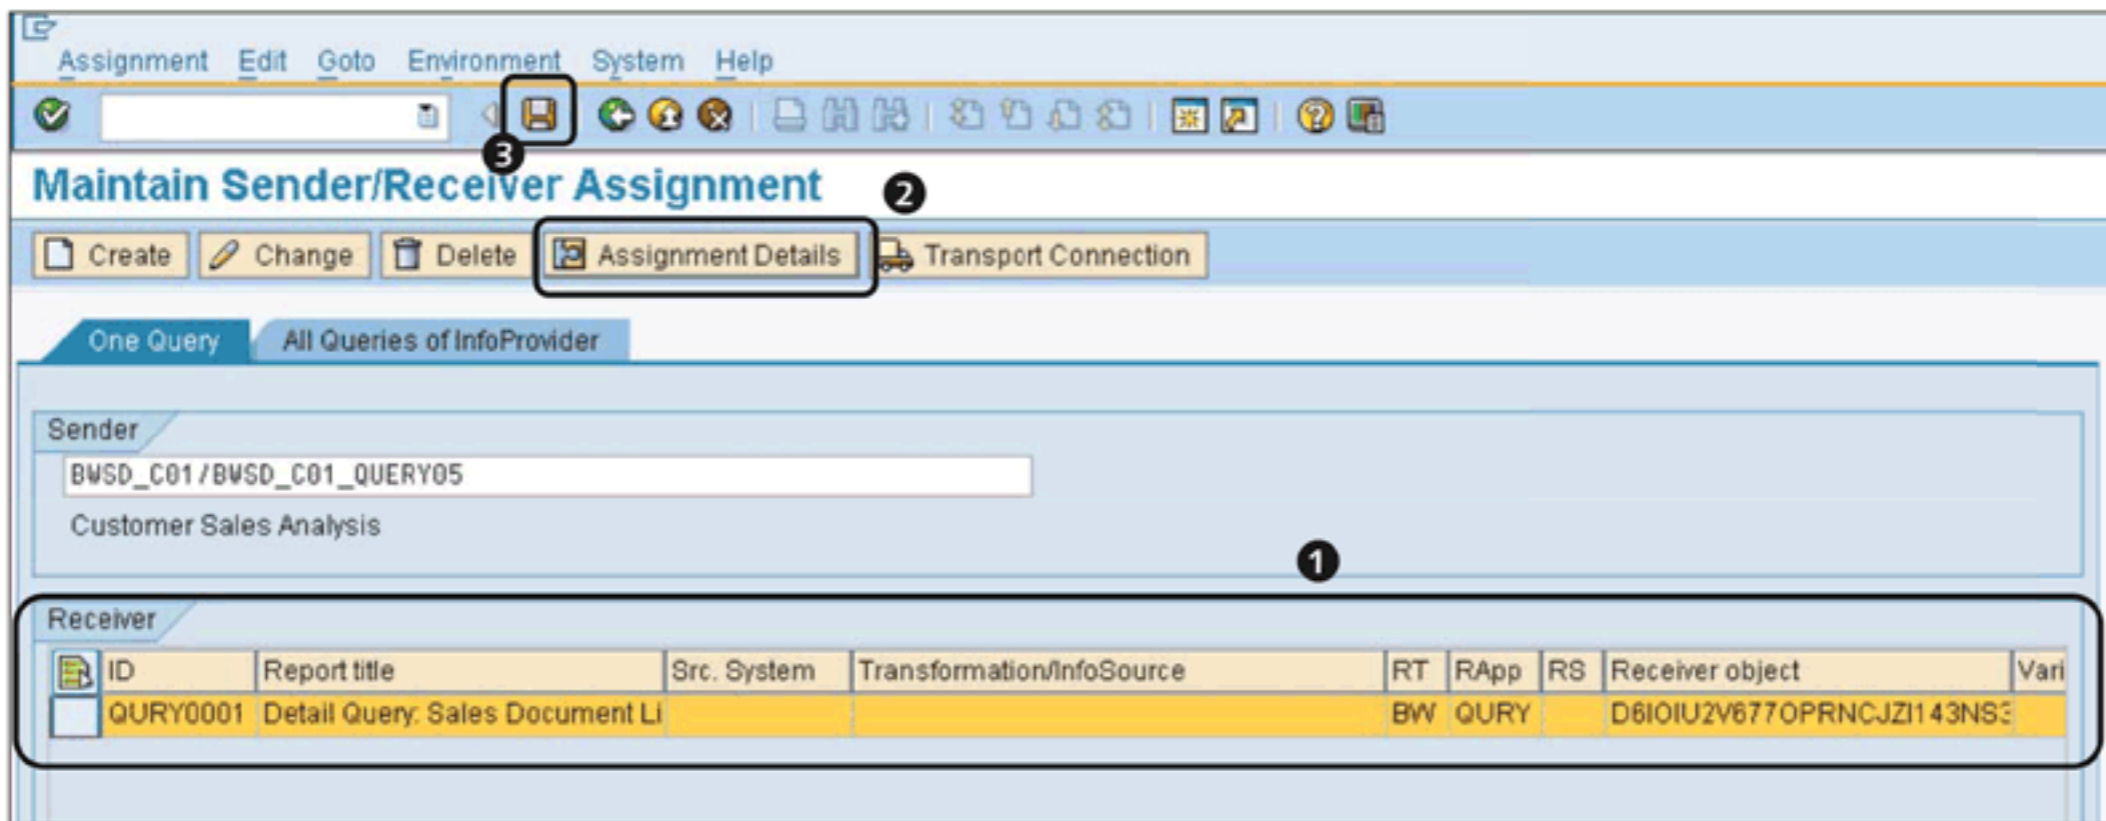
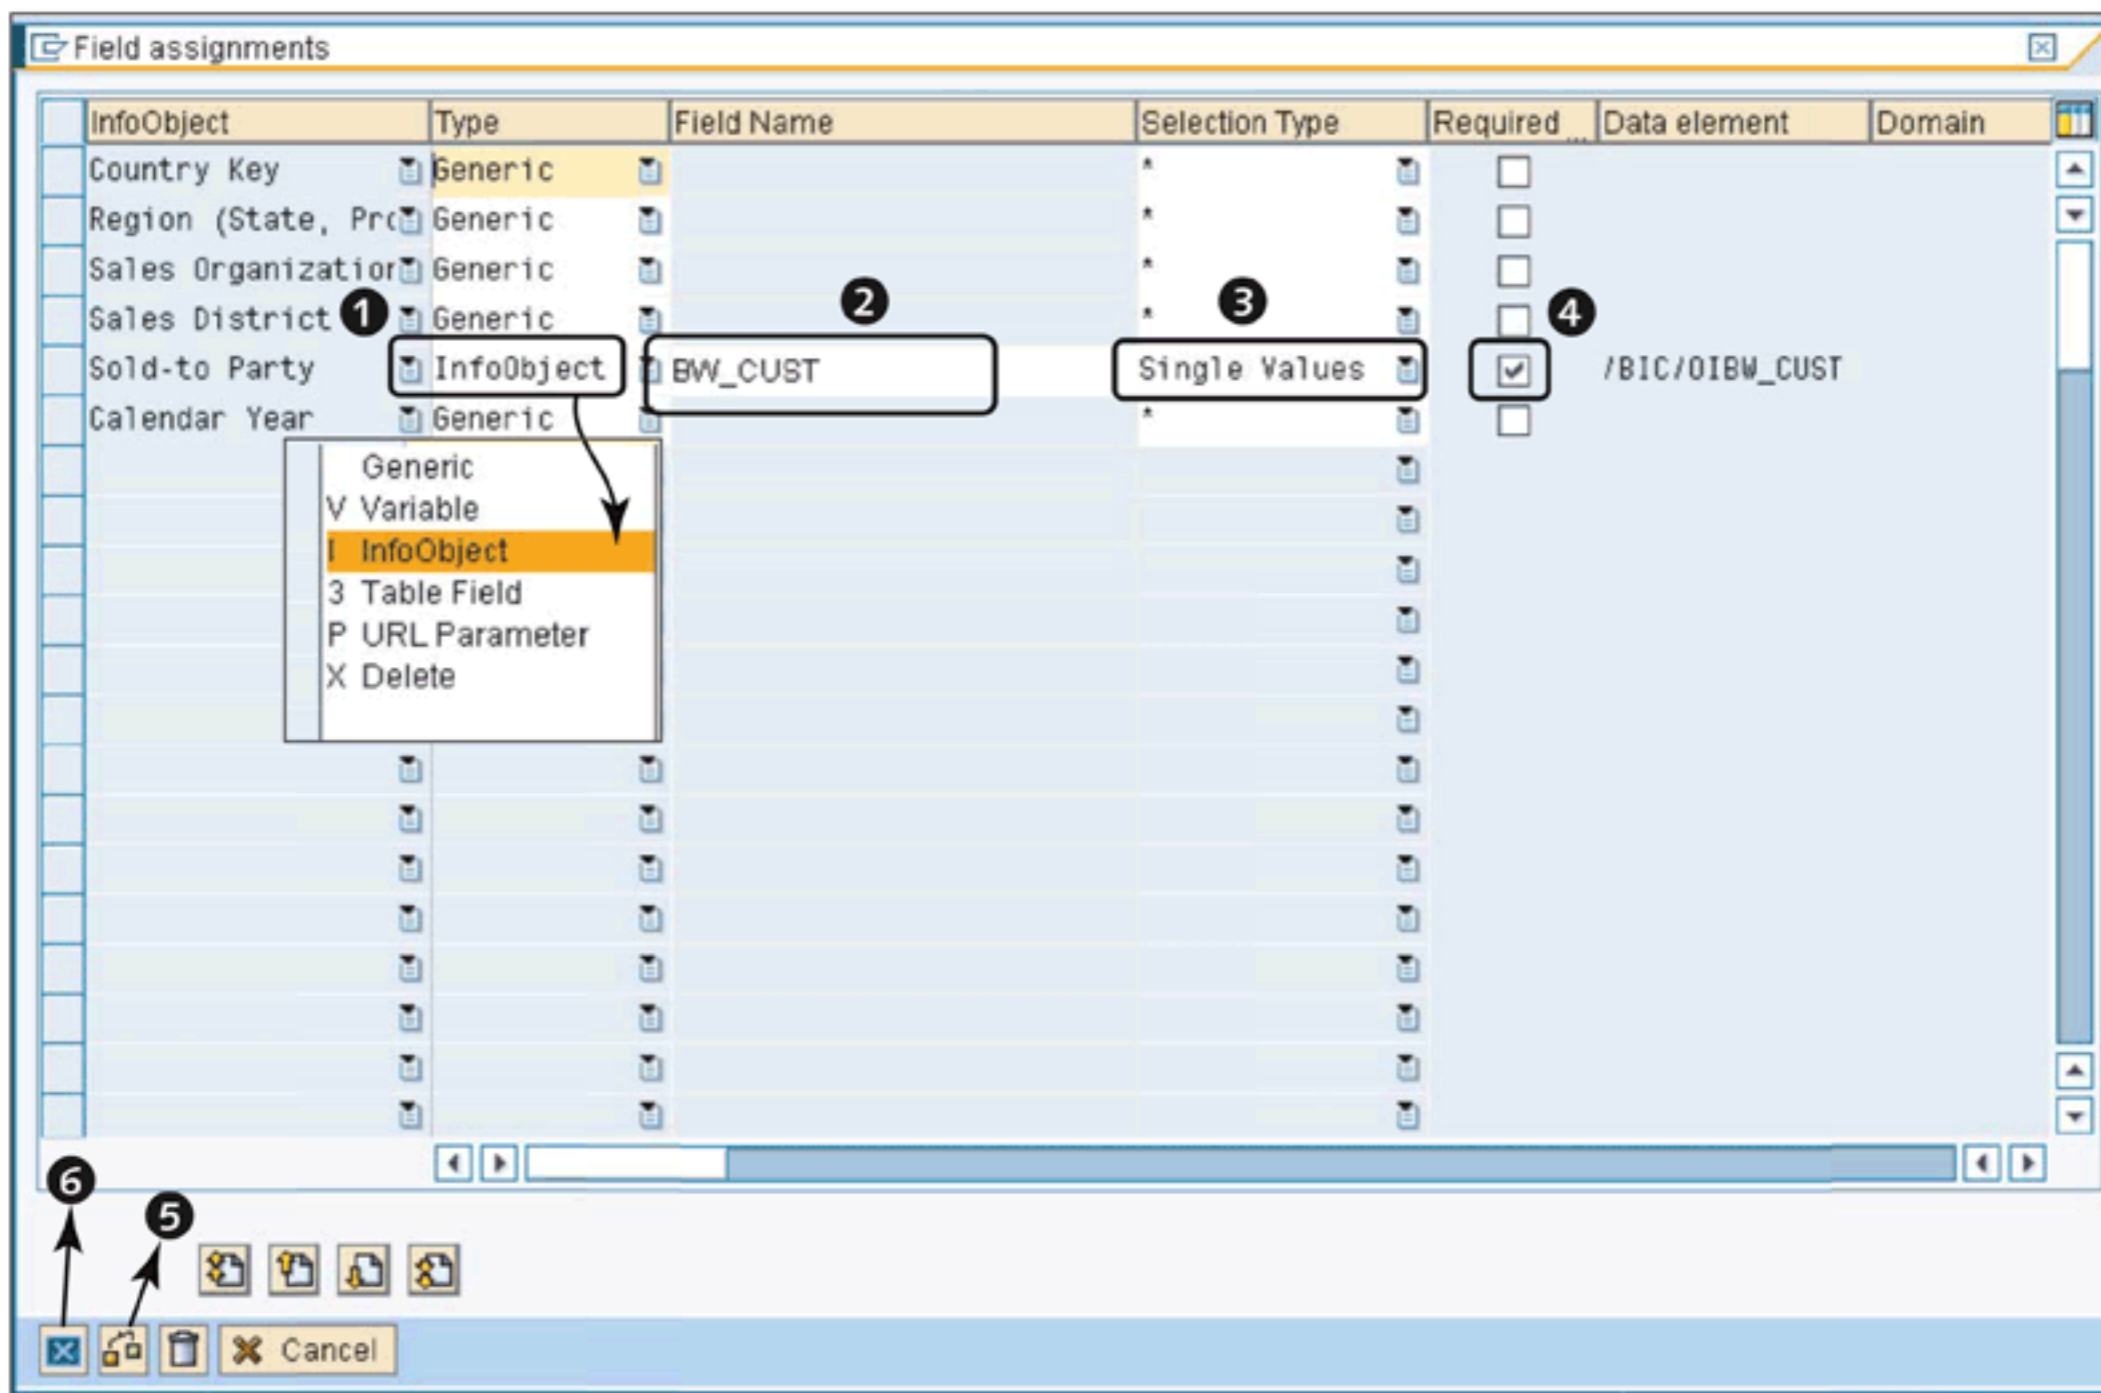

Figure 9.95 Go to Assignment Details
Figure 9.96 Maintain Field Assignments
Select whether the receiver is in the same system as that of the sender or in some different system (3), and define the receiver query (4). For our example, the **DETAIL QUERY: SALES DOCUMENT LIST** is maintained as the receiver. Click on the **TRANSFER** button (5) to complete this configuration and return to the main screen. This newly created assignment is now visible in the **RECEIVER** section, as shown in Figure 9.95.
You now have to maintain the specific parameters of this assignment where you specify how the information will be exchanged between the sender and the receiver. Select the assignment (1 of Figure 9.95), and click on the **ASSIGNMENT DETAILS** button (2). This opens the **FIELD ASSIGNMENTS** pop-up box, as shown in Figure 9.96.
On the **FIELD ASSIGNMENTS** screen, you actually define how the information will be passed from the sender to the receiver. Select the type of assignment (1 of Figure 9.96), and specify the InfoObject name as the **FIELD NAME** (2). Maintain the **SELECTION TYPE** (3), and select the checkbox in the column **REQUIRED** (4), so that the receiver query is called and executed only if it's called for a customer value.
Check the details by using the button shown in 5 of Figure 9.96, and finally complete the assignment and close this window using the button shown in 6. The
RRI definition is complete, and you can now save this definition using the SAVE button shown earlier in ❸ of Figure 9.95.